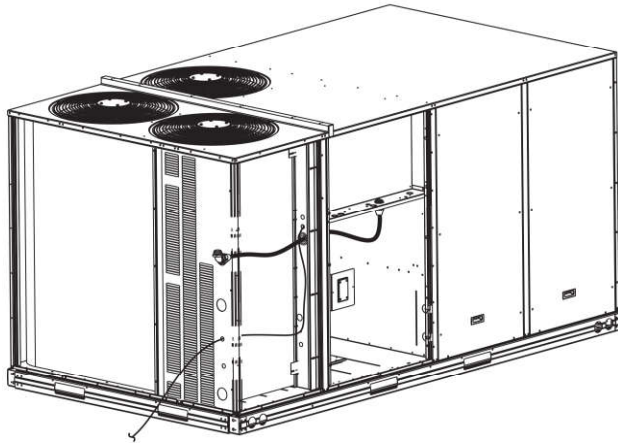

Fig. 51 — Thermostat Wire Routing
slack in the thermostat wire to ensure that it will not be damaged by contact with the condenser coil. See Fig. 51.
1. Route the humidistat 2-conductor cable (field-supplied) through the bushing the unit's louvered end panel (see Fig. 51).
4. Use the connector and the wire tie to reduce any slack in the humidistat cable to ensure that it will not be damaged by contact with the condenser coil (see Fig. 51).